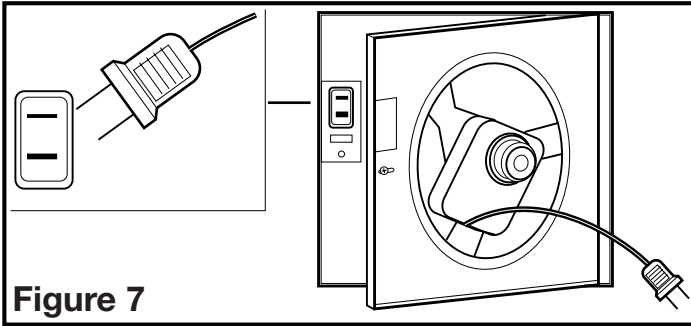

Figure 7
1. Reinstall the fan's venturi by holding it at approximately a 45 degree angle, hook the two tabs on the venturi into the slots on the housing and secure in place by tightening the venturi screw. Rotate the blower wheel by hand to ensure it spins freely. Now plug the fan motor into the receptacle (**Figure 7**).